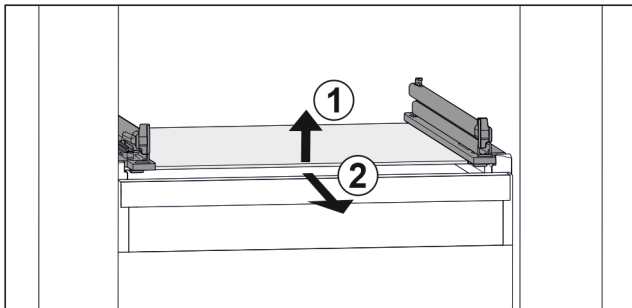

Fig. 107 Example illustration of glass shelf
- ▶ Lift glass shelf at the front. Fig. 107 (1)
- ▶ Remove glass shelf to the front. Fig. 107 (2)